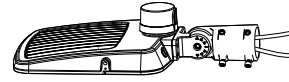

Figure 4
- Step 2: Install the bracket on the fixture. (Figure 4)